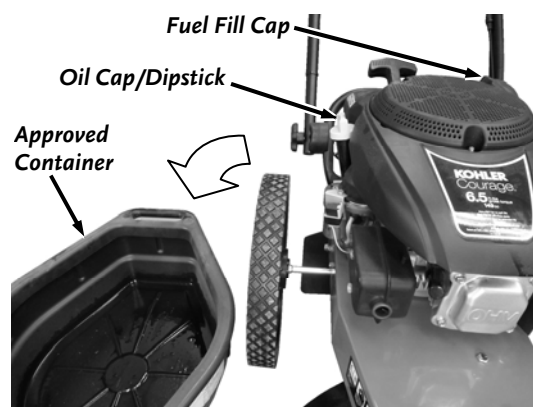

Figure 39
4. Using the handle of the DR TRIMMER/MOWER, tip the machine to drain the oil out through the Oil Filler Tube into a suitable receptacle (**Figure 39**).